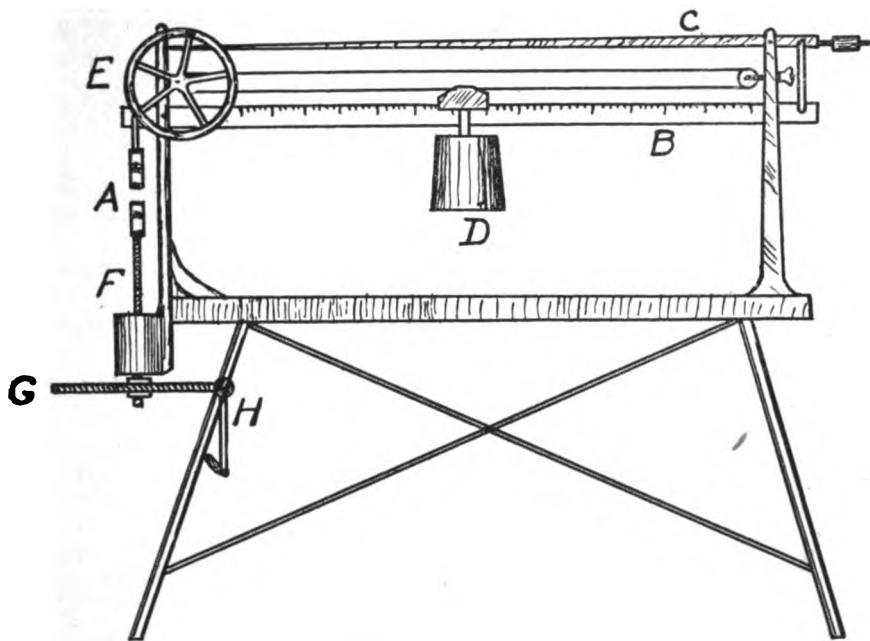

Fig. 2. Machine for Testing Briquettes
they are allowed to set for one day in moist air and then placed in water for periods varying from one day to 28 days. Several different types of machines are used to test the briquettes, but in principle they are all alike. The machine shown in Fig. 2 is one of the common types. The briquettes are placed in the jaws marked A. The upper jaw is connected to a system of levers B and C. D is a weight mounted upon a roller and travels on B. It is propelled by means of a cord running over pulleys and to one of the pulleys is attached the handwheel E. The end of the lever C comes opposite a small fixed pointer and is used merely to magnify the deflection and thus make possible a more perfect balance. When a briquette in A is under tension, C drops and by turning the handwheel E, the weight is moved until balance is secured and the end of the lever C comes directly opposite the pointer. The tension may then be read on B, which is graduated in pounds. The lower jaw is attached to a long screw F, which passes through a nut in the center of the gear G. H is a worm engaging in G and turned by a handle. When a briquette is being tested, H and E are turned at the same time, thus applying the load with one hand and keeping it balanced with the other until the briquette breaks.
4. The aerial here referred to is of the shifted T-type, and where the drop wires are taken off the joint is made as follows. Referring to Fig. 2 it will be seen that the drop wire is brought to the aerial wire, wound about for a distance of 3 or 4 in., and finally brought back and twisted about itself, thus forming an open triangle. This form of joint prevents a right-angled connection, which would sway back and forth until the wire breaks off.